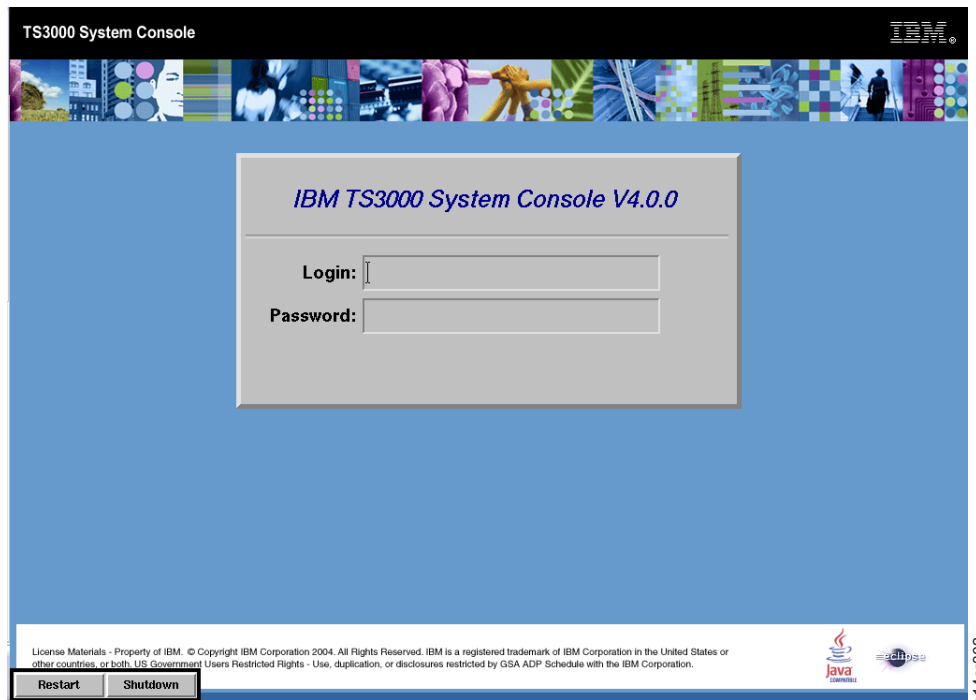

Figure 2-50. Console Login Screen – Example. The Version number (Vx.x.x) will reflect your level of microcode.
The System Console is ready for user login when you see the Console Login Screen, represented in Figure 2-50 on page 2-37 (microcode level may vary). There are two login options.
For a non-authenticated login, in the Login field (depicted in Figure 2-50) type **service**. Press the **Tab** key to move your cursor to the Password field and enter the case sensitive password **service**. This type of login will provide access to all console configuration and service tools. This username and this password are not valid for subsequent logins to any attached system. Non-authenticated logins are not available for remote access (see “Remote Access Using NetTerm” on page 3-19).
1. At the Console Login screen (Figure 2-50), in the username field enter **Service** (case sensitive). Press the **Tab** key to move your cursor to the Password field, and enter **ibm2serv** (case sensitive).